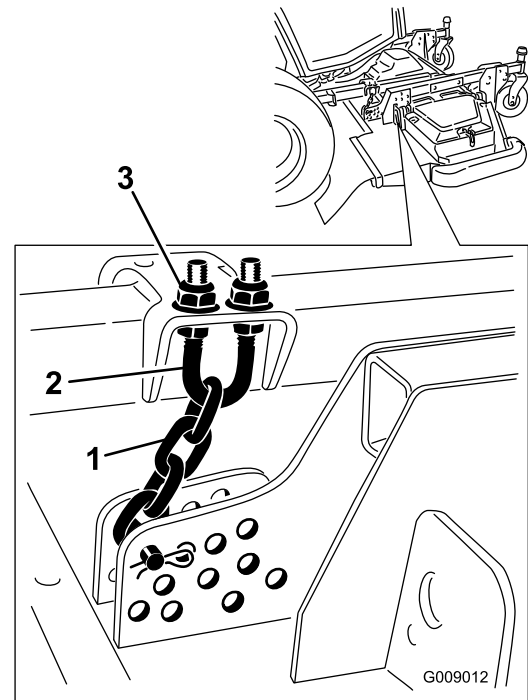

Figure 127
5. Loosen the jam nuts on the top or bottom of the height-of-cut chain U-bolt (Figure 127).